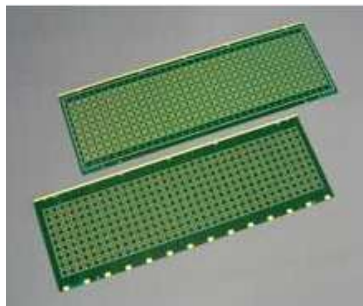

Fig. 1. Substrate strip.
- Substrate material or the substrate strip in Fig. 1 played a very important role in packaging industry, not only because it represents a great portion of the cost but also has a great influence on package performance